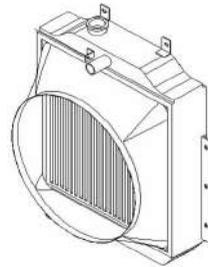

Fig 5-48
6.4.1 Check leaks or damage of the radiator and remove any trash or dirty accumulating on the radiator daily. Clean or repair it as necessary (see Fig 5-48).